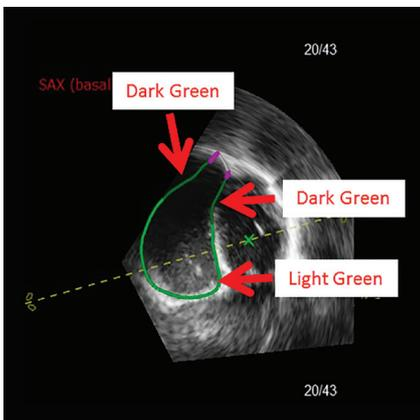

Figure 6 SAX view with pulmonary valve side-cutting.
- Additionally, valve annulus geometry can be modified (purple: pulmonary valve, blue: tricuspid valve) (Figure 6).